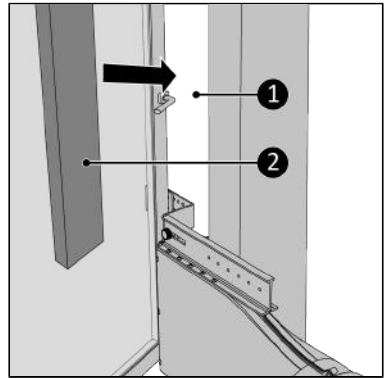

Figure 84.
17. Fill up the open spaces (Figure 84, pos. 1) with the delivered isolation foam (Figure 84, pos. 2), cut the foam if necessary\*.